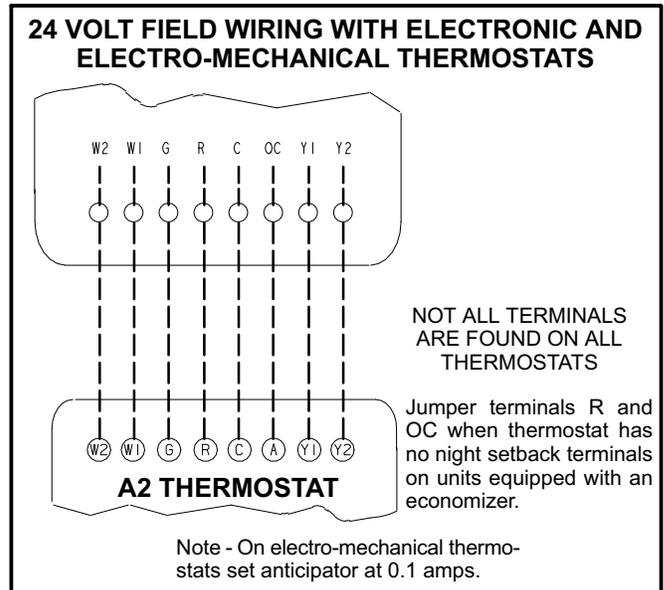

FIGURE 10
- 3- Connect thermostat wiring to TB1 terminal board on the left side of the controls area. Wire as shown in figure 10 for electro-mechanical and electronic thermostats. If using other temperature control devices or energy management systems see instructions and wiring diagram provided by manufacturer.